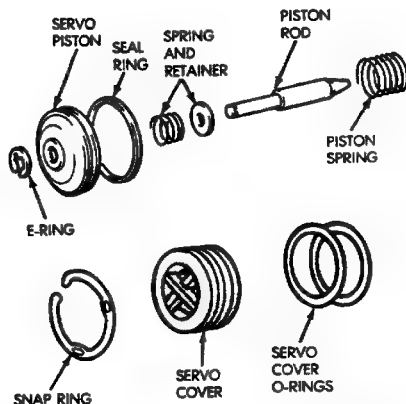

Fig. 35 Second Coast Brake Servo Components
- (4) Remove and discard seal and O-rings from cover and piston (Fig. 35). Inspect E-ring, piston, spring and retainer, piston rod and piston spring. Replace worn or damaged parts.
- (5) Install new seals on cover and piston.
- (6) Lubricate servo components with transmission fluid.
- (7) Assemble and install servo components in case. Be sure servo piston rod is properly engaged in the second coast brake band.
- (8) Compress cover and piston and install cover snap ring.
- (9) Install valve body, oil screen and oil pan.